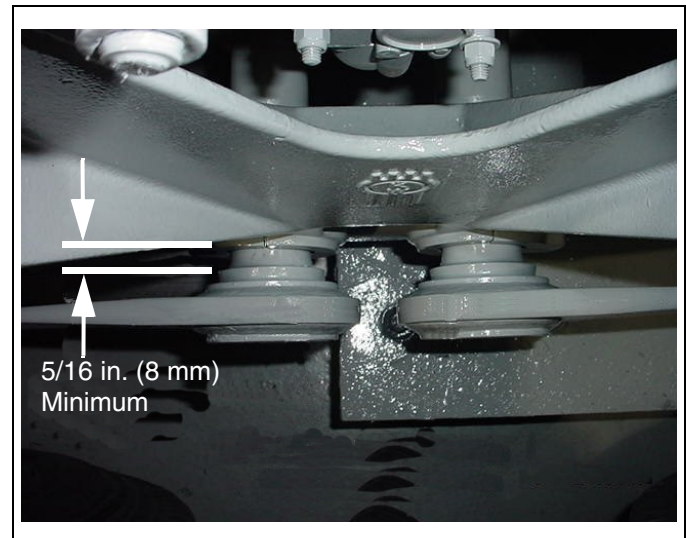

Figure 15-16
14. Ensure the clearance between the swaybar end to the frame bracket on both sides is at least 5/16 in. (8mm). If it is less than 5/16 in., the swaybar must be re-positioned (centered) between the frame brackets. See Figure 15-16.